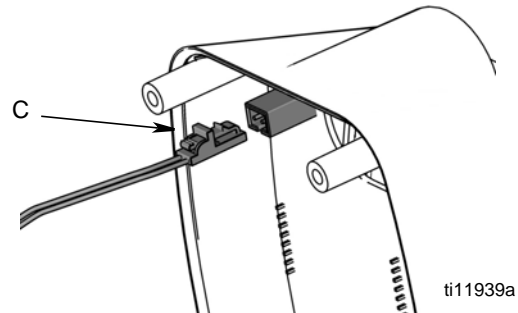

FIG. 4
4. Preset models only, unsnap solenoid lead (C) (FIG. 4).